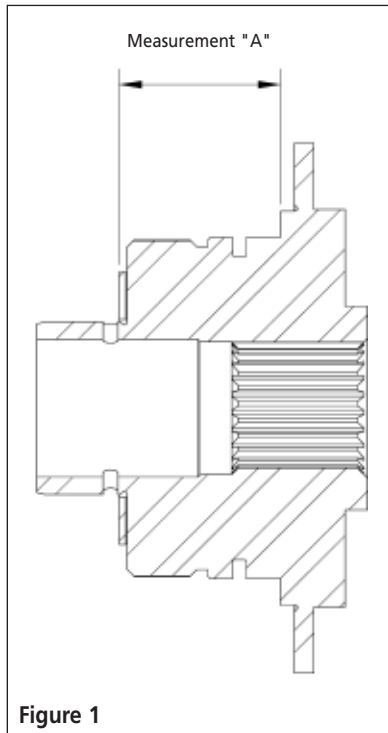

Figure 1
12. First take the turbine hub and thrust washer and measure from the shoulder that the clutch rides on to the thrust face of the washer (the "A" measurement in Figure 1).